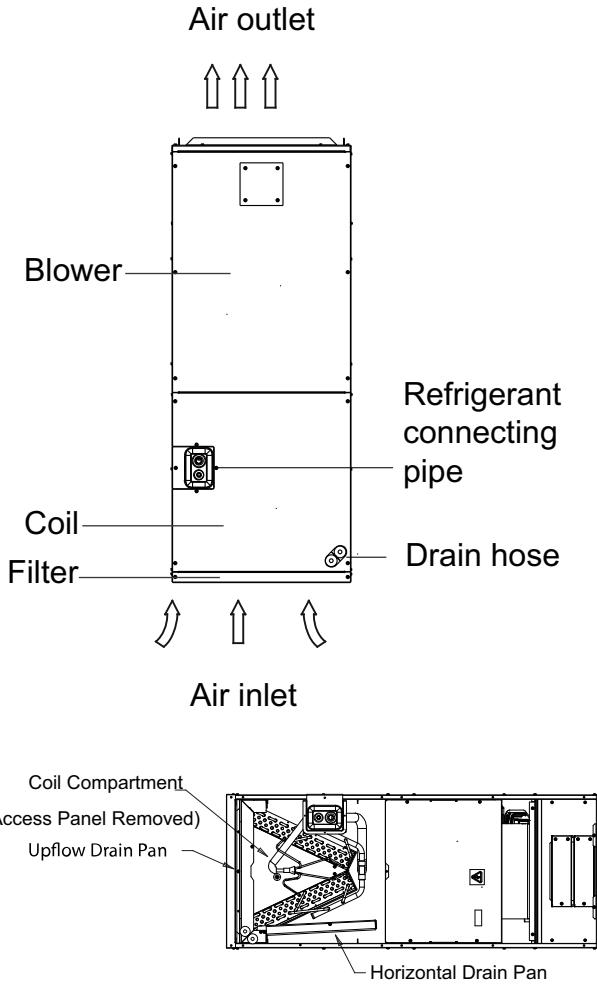

Fig. 18 — Indoor Unit Representation
- Illustrations in this manual are for explanatory purposes. The actual shape of your indoor unit may be slightly different. See Fig. 18. The actual shape shall prevail.